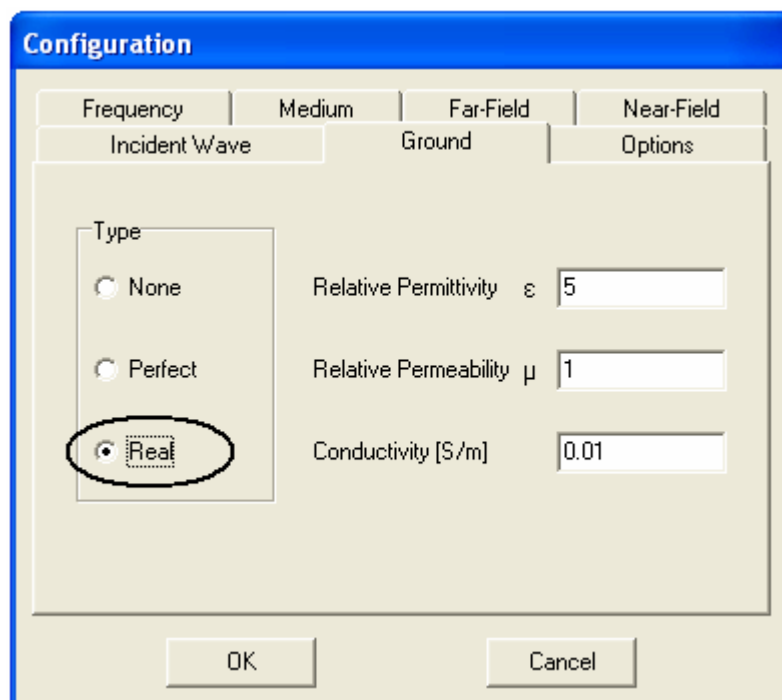

Fig. 10.2: Real option in the Ground page of the Configuration dialog box.
3. Check the **Real** option, Fig. 10.2.